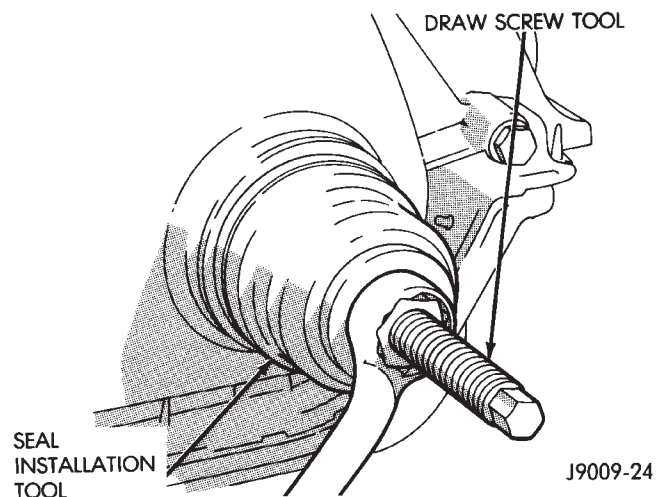

Fig. 3 Timing Case Cover Oil Seal Installation
- (1) Disconnect negative cable from battery.
- (2) Remove the serpentine drive belt.
- (3) Remove the vibration damper.
- (4) Remove the radiator shroud.
- (5) Carefully remove the oil seal. Make sure seal bore is clean.
- (6) Position the replacement oil seal on Timing Case Cover Alignment and Seal Installation Tool 6139 with seal open end facing inward. Apply a light film of Perfect Seal, or equivalent, on the outside diameter of the seal. Lightly coat the crankshaft with engine oil.
- (7) Position the tool and seal over the end of the crankshaft and insert a draw screw tool into Seal Installation Tool 6139 (Fig. 3). Tighten the nut against the tool until it contacts the cover.